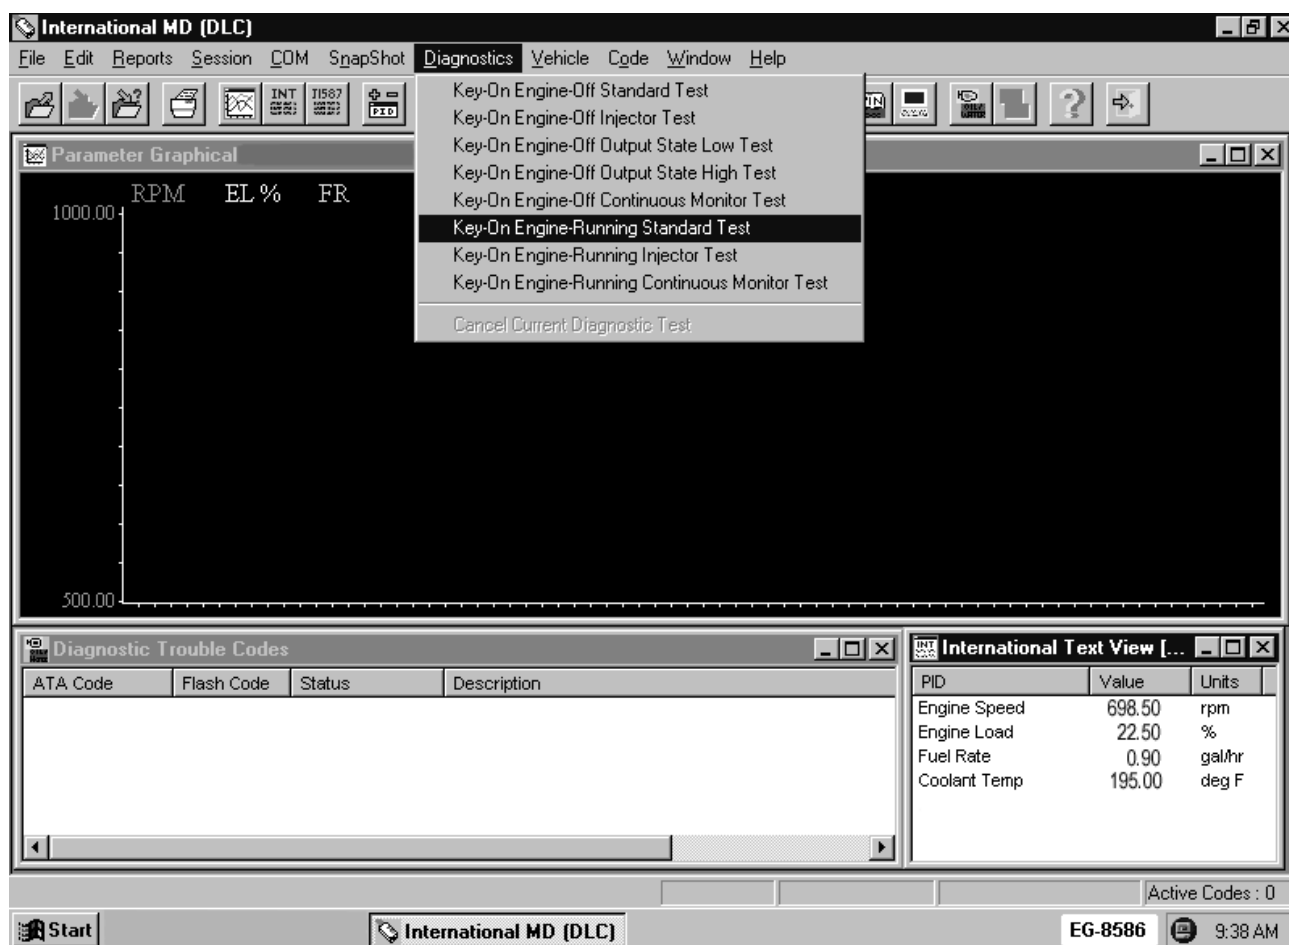

Figure 175
1. Select the **Diagnostic** drop-down menu and then select **Key-On Engine-Running Standard Test** (See Figure 175, page 371). After the KOER_CCT_I6.SSN file is open and the Key-On Engine-Running Standard Test has been performed.